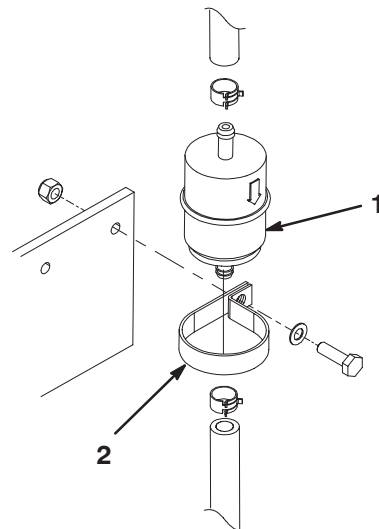

Figure 41
- Locate the fuel filter near the left side of the engine (Fig. 41).
- Loosen the screw and nut securing the fuel filter mounting clamp to the mounting plate (Fig. 41).
- Loosen the hose clamps and slide them away from the filter (Fig. 41).